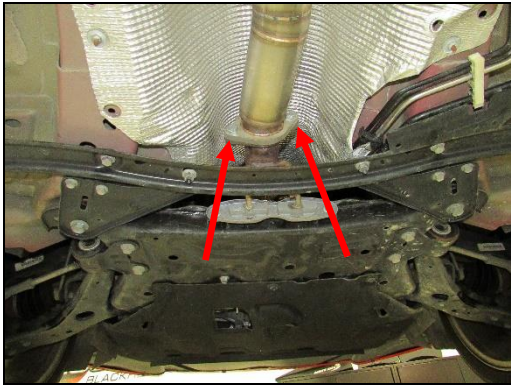

Figure 6
1. Install the center section Hooker blackheart exhaust, using the supplied (x2) 17mm head bolts, (x2) 15mm head nuts to connect the exhaust flange to the OEM down pipe flange or Hooker Blackheart race pipe part number BH3369. Reuse the OEM gasket, but replace if needed (**Figure 6**).